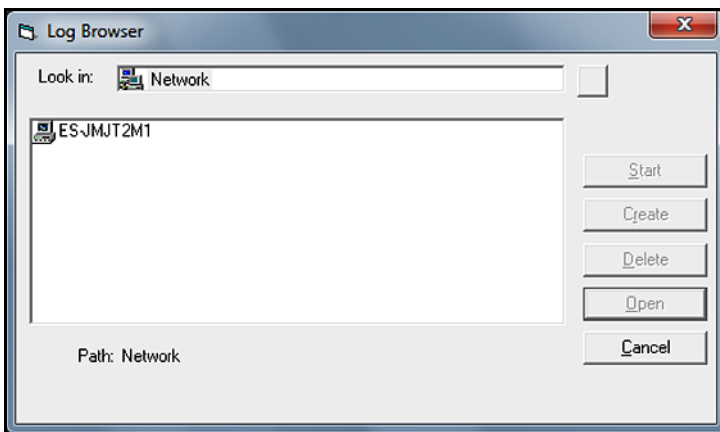

Figure 70: Computer Selection
- Click on the “*Log Browser*” option to open the dialog box shown in *Figure 70* below.